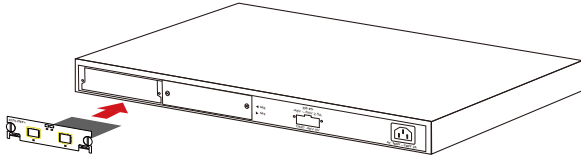

Figure 3 Insert the XGS3-2SFP+ modules
2. Install the XGS3-2SFP+ module by inserting it into the rails and sliding it in until it stops (See Figure 3). Press it firmly until you feel the module snap into place. Never force, twist or bend the optional module.